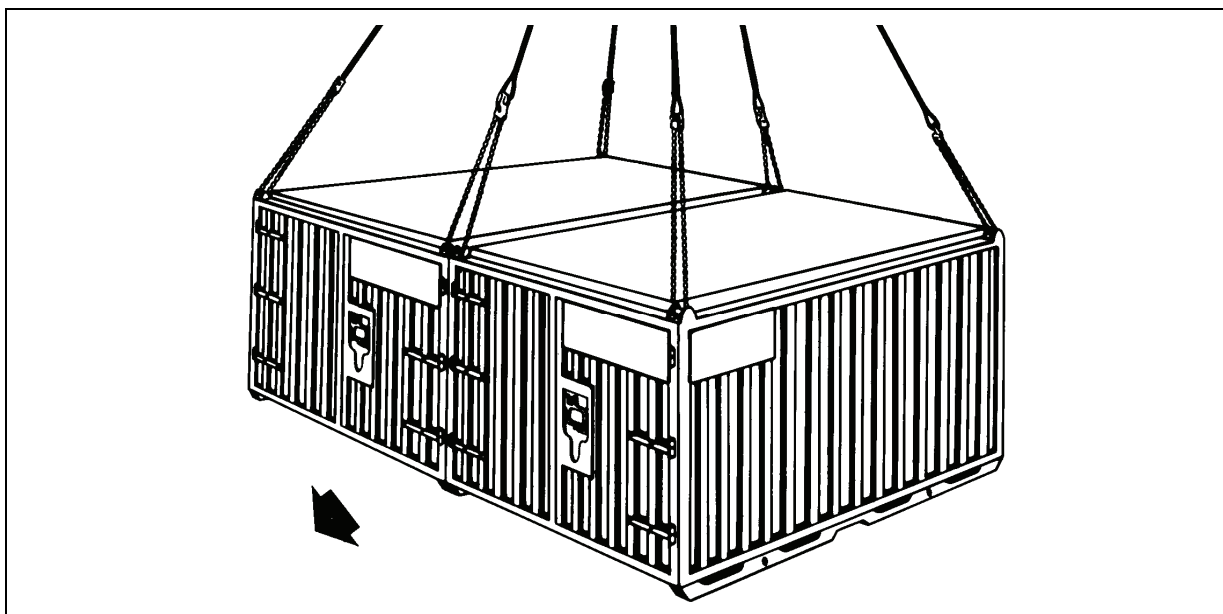

Figure 20-2. Two CONEX Containers
- **Rigging.** Rig the load according to the steps in Figure 20-2.